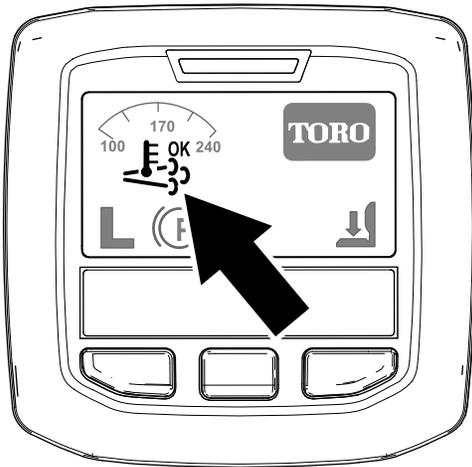

Figure 33
- The assist/reset-regeneration icon displays in the InfoCenter (Figure 33).